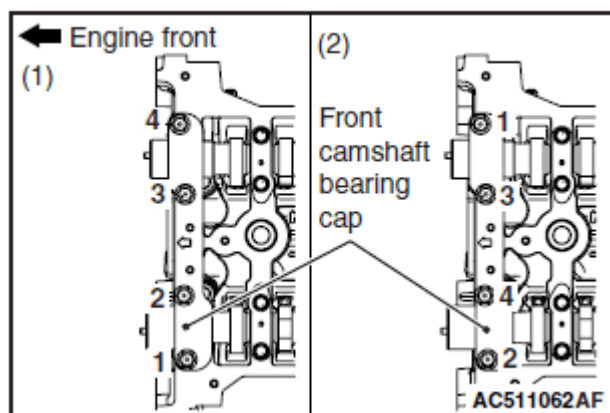

Fig. 102: Identifying Front Camshaft Bearing Cap Mounting Bolts Tightening Sequence
1. Install the front camshaft bearing cap to the cylinder head, and temporarily tighten the front camshaft bearing cap mounting bolts to the specified torque in the order (1 in Fig. 102).
2. Tighten the front camshaft bearing cap mounting bolts again to the specified torque in the order (2 in **Fig. 102**).